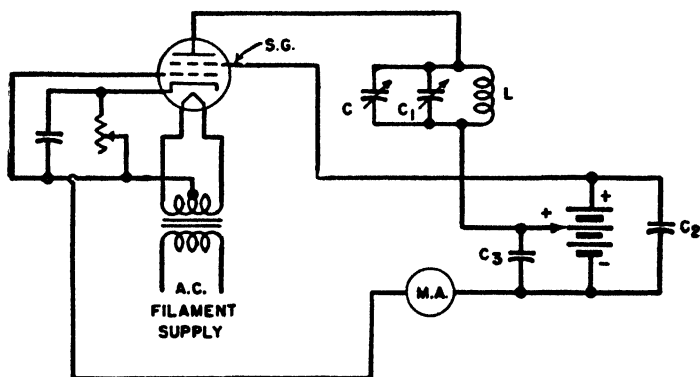

FIG. 3-12.—Dynatron oscillator.
*Ans.* See Fig. 3-12. This type of oscillator may be identified by the anode (*SG*) being at a higher potential than the plate. This condition is necessary to accomplish the